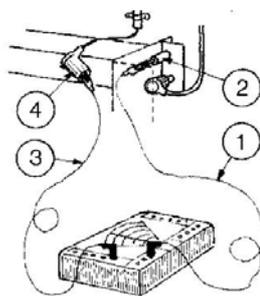

Fig. 27 Measuring ionisation
Connect the black wire (-) (1) of the  $\mu\text{A}$ -meter with the ionisation connector electrode (2) on the boiler (fig. 27). Connect the red wire (+) (3) of the  $\mu\text{A}$ -meter with the ionisation cap (4). The ionisation of the pilot burner must show a minimum of 5  $\mu\text{A}$  over 10 seconds after which the burner falls into flame detection lockout. Wire the main gas valve back to its original condition. Repeat the test by starting the boiler and allowing to fire up to maximum operation. Check that the  $\mu\text{A}$ -meter reads at least 5  $\mu\text{A}$  after 10 seconds.